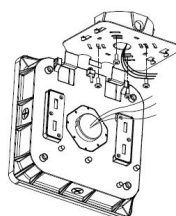

Figure 9
- Hang the luminaire onto the mounting plate hooks, and then connect the black, white and yellow / green luminaire wires to incoming power wires (black to line, white to neutral, and yellow / green to ground). See Figure 9 and wiring Diagrams.